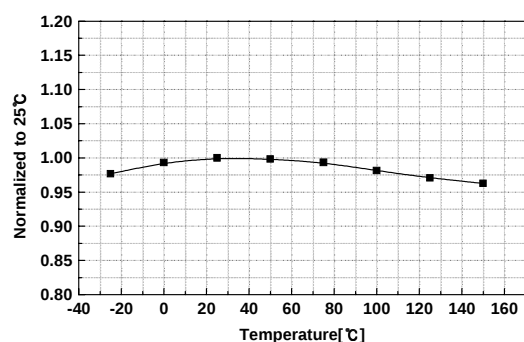

Figure 2. Operating Supply Current vs. Temp.
2. Feedback Control : FS8S0765RCB employs primary side regulation, which permits elimination of feedback circuit components in the secondary side such as opto coupler and TL431. Figure 2 shows the primary side control circuit. The primary side regulation voltage (V_{psr}) is controlled to the breakdown voltage of zener diode (D_z). Because current mode control is employed, the drain current of the power MOSFET is limited by the inverting input of PWM comparator (V_{fb*}). When MOSFET turns on, usually there exists high current spike in the MOSFET current caused by primary-side capacitance and secondary-side rectifier reverse recovery. In order to prevent premature termination of the switching pulse due to the current spike, the FPS employs leading edge blanking (LEB). The leading edge blanking circuit inhibits the PWM comparator for a short time after the MOSFET is turned on.